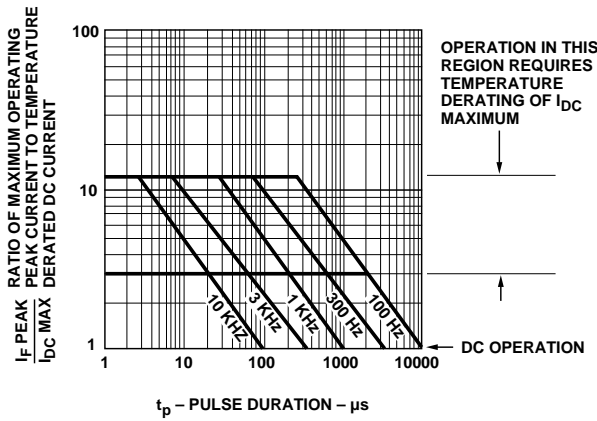

Figure 11. Allowable Peak Current vs. Pulse Duration - Green.
9. See Figure 11 to establish pulsed conditions.